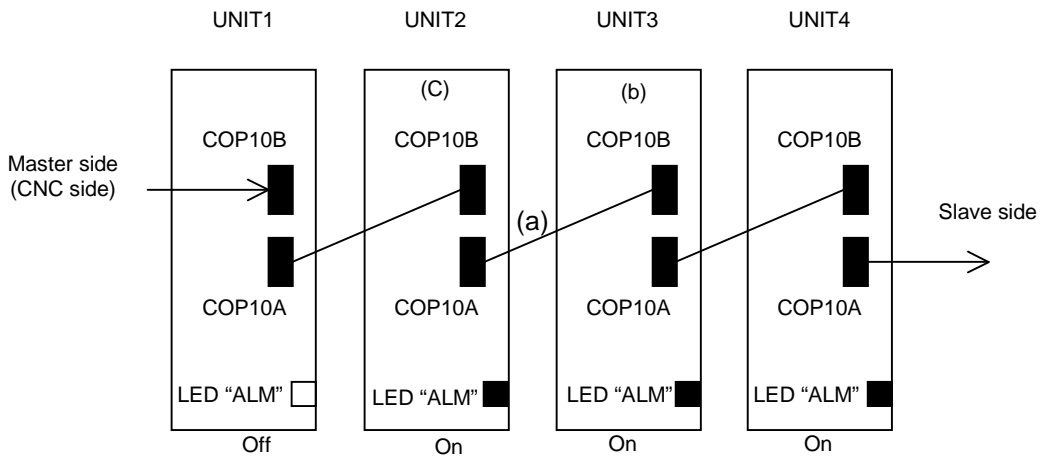

Fig. 3.1.10
- (2) Cause and troubleshooting
- (a) Replace the optical cable (COP10A) of the  $\beta$ iSV-B that is nearest to the CNC among the amplifiers on which the ALM LED is lit (in Fig. 3.1.10, the cable between UNIT2 and UNIT3).
- (b) Replace the  $\beta$ iSV-B that is the second nearest to the CNC among the amplifiers on which the ALM LED is lit (in Fig. 3.1.10, UNIT3).
- (c) Replace the  $\beta$ iSV-B that is nearest to the CNC among the amplifiers on which the ALM LED is lit (in Fig. 3.1.10, UNIT2).